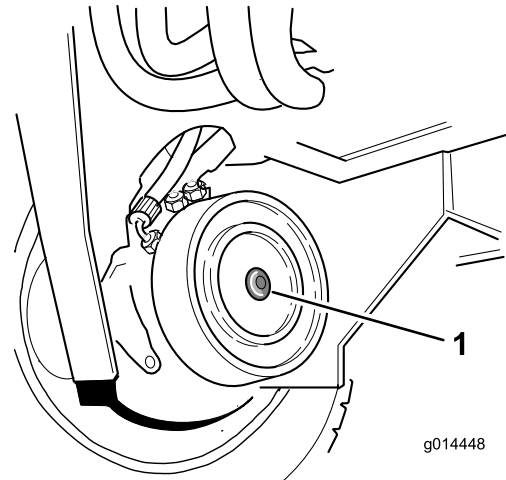

Figure 59
2. Identify the right hand front wheel motor disc brake assembly and remove the hex plug (Figure 59).